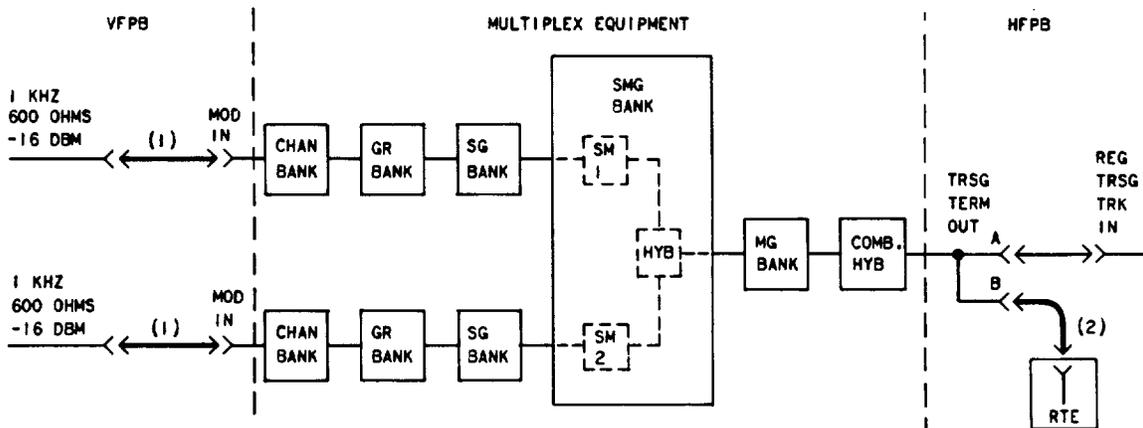

Fig. 1—Suggested Monitoring Method—Transmitting Submastergroup Bank
1	<p>Select two (2) voice-frequency channels, one working in submastergroup 1 (SM 1) and one working in submastergroup 2 (SM 2) of the submastergroup bank to be patched (see Fig. 1); verify that the selected channels are not in service.</p>
2	<p>At the voice-frequency patch bay (VFPB), connect a 1-kHz test tone to each of the selected channels [patch (1), Fig. 1].</p>
3	<p>Prepare the receiving test equipment (RTE) to measure the translated 1-kHz tone for channel selected in SM1 at the correct power for the monitoring point (Fig. 1).</p> <p>Note 1: See Section 358-080-501 for frequency charts and level diagrams.</p> <p>Note 2: Always monitor at a point in the circuit path beyond the final patch point.</p>
4	<p>At the HFPB, connect the RTE to the TRSG TERM OUT B jack [patch (2), Fig. 1]. Tune for the translated 1-kHz tone.</p> <p>Note: It may be necessary to remove the 1-kHz tone at the MOD IN jack to verify that the correct tone is being monitored.</p> <p>Patching</p>